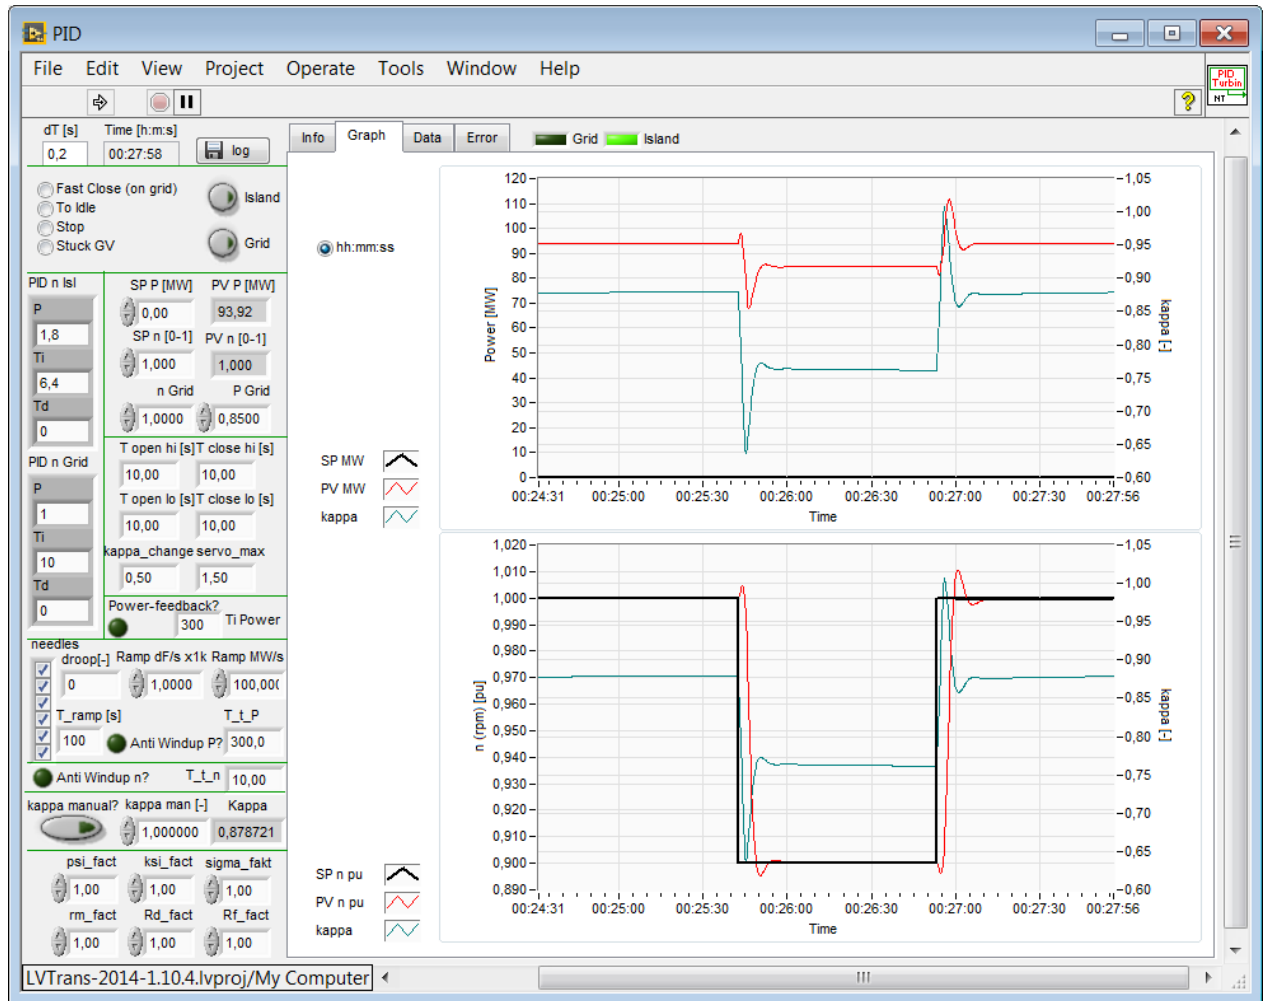

Figure 11.7 Finished tuned PI, point 8 after method 2
7. Set $K_p = 1.2 * P_c$ ($P = 1.2 * 1.5 = 1.8$ in this example), see Figure 11.7